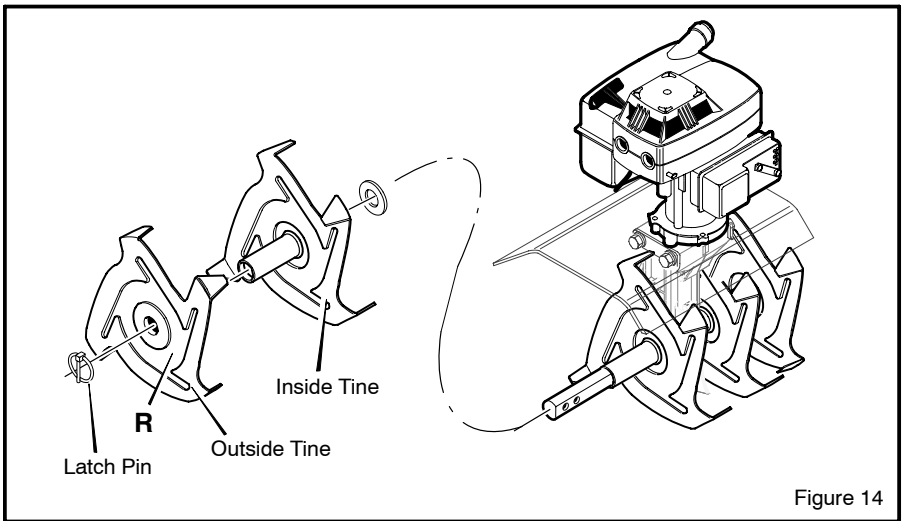

Figure 14
3. While wearing gloves, remove the **latch pins** that secure the tine assemblies to the shaft (see Figure 14). Remove the **tines** from one side of the unit.
3. When the tines are properly installed, the cutting tips on the outside tines will all curve toward the inside. The letter R will be visible on the outside of the right tine (see Figure 14). The letter L will be visible on the outside of the left tine.